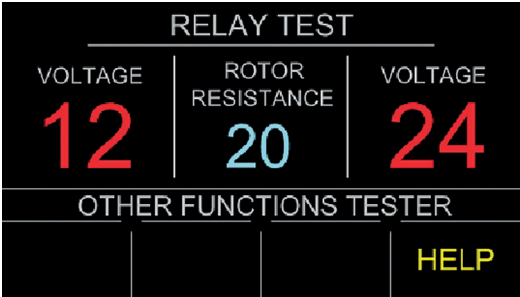

Fig. 5. MS012 COM Voltage regulator tester – Main menu
Button to return to the previous menu (Fig. 5).
Button to return to the main menu (Fig. 5).
- **EXIT:** return to the main men (Fig. 5).
- **EXIT:** return to the main menu (Fig. 5).
- **EXIT:** return to the main menu (**Fig. 5**).